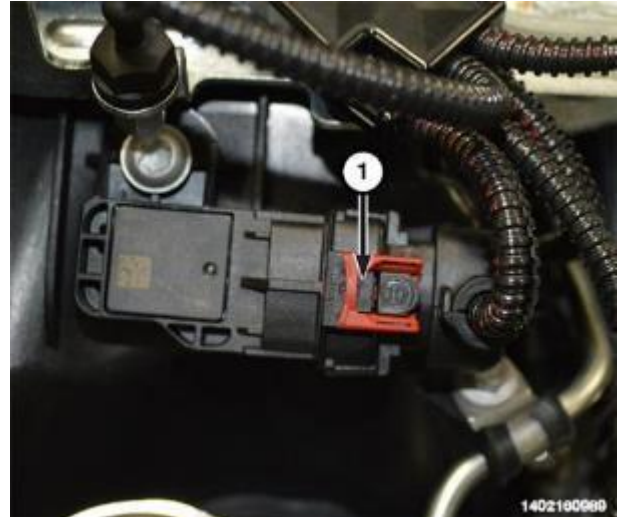

Figure 32 – Sensor Harness Connector
- 60. Disconnect the boost pressure sensor wire harness connector (1) (Figure 32).